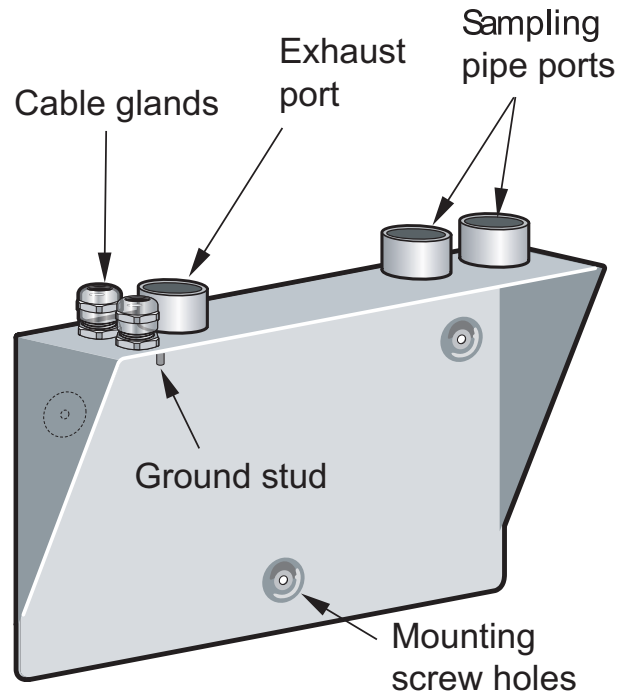

Figure 1-6. Two Port Docking Station with Piped Exhaust
A Piped Exhaust docking station includes a third port which allows the Detector exhaust air to be taken back to the area of different atmospheric pressure from which the inlet is sampling (Refer to Figure 1-6).
The ASD-320 is supplied with a "Piped Exhaust" type Docking Station (as shown in Figure 1-6). This allows the ASD-320 detector to sample from areas which may be at different air pressure from the detector location. Typical uses are for air duct sampling and allowing the installation of the detector in under-floor or ceiling voids or when sampling from pieces of computer-related equipment.
The docking station is connected to the installed sampling pipework and fixed to the mounting surface using three screws of a type appropriate to the mounting surface. Ensure that the sampling and/or exhaust pipes are securely seated in the pipe ports before securing. If using a piped exhaust docking station, be sure that the sampling and exhaust pipes are fitted into the relevant ports as shown in Figure 1-6 of Chapter 1.
6. Connect a second wire from the "Earth" terminal to the docking station ground stud. Figures 1-6 shows the location of the ground stud for both types of docking stations.